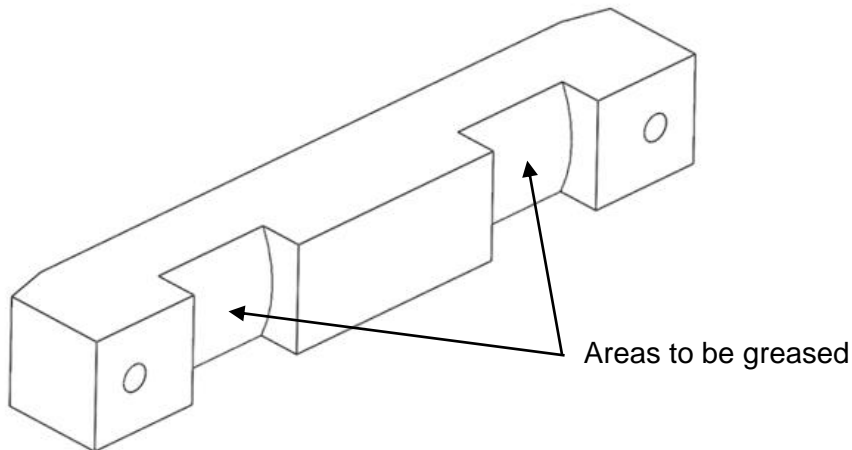

Fig. 5.9
9. Grease the new pads with copper paste type MOLYSLIP area (see Fig. 5.9) and insert them on the levers **16**.